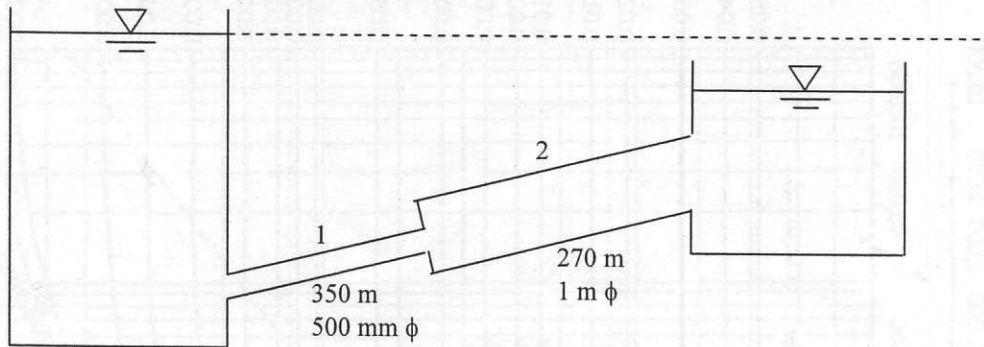

Figure 4
7. (a) A pipeline  $50 \text{ m}$  long is connected to a water tank at one end and discharges freely into the atmosphere at the other end. For the first  $20 \text{ m}$  of its length from the tank, the pipe is  $25 \text{ cm}$  in diameter and its diameter suddenly enlarges to  $50 \text{ cm}$ . The height of water level in the tank is  $10 \text{ m}$  above the center of the pipe. Considering all losses of head that occurs, determine the rate of flow. Assume  $f = 0.02$  for both the pipes. (8)
(b) Two reservoirs with a difference in water surface elevation of 8 m are connected by two pipes in series as shown in figure 4. The equivalent roughness heights of the two pipes are 2.0 and 0.3 mm respectively. Find discharge by equivalent velocity head method. Given  $\nu = 3 \times 10^{-6} \text{ m}^2/\text{s}$ . Use Moody diagram for friction factor. (17)